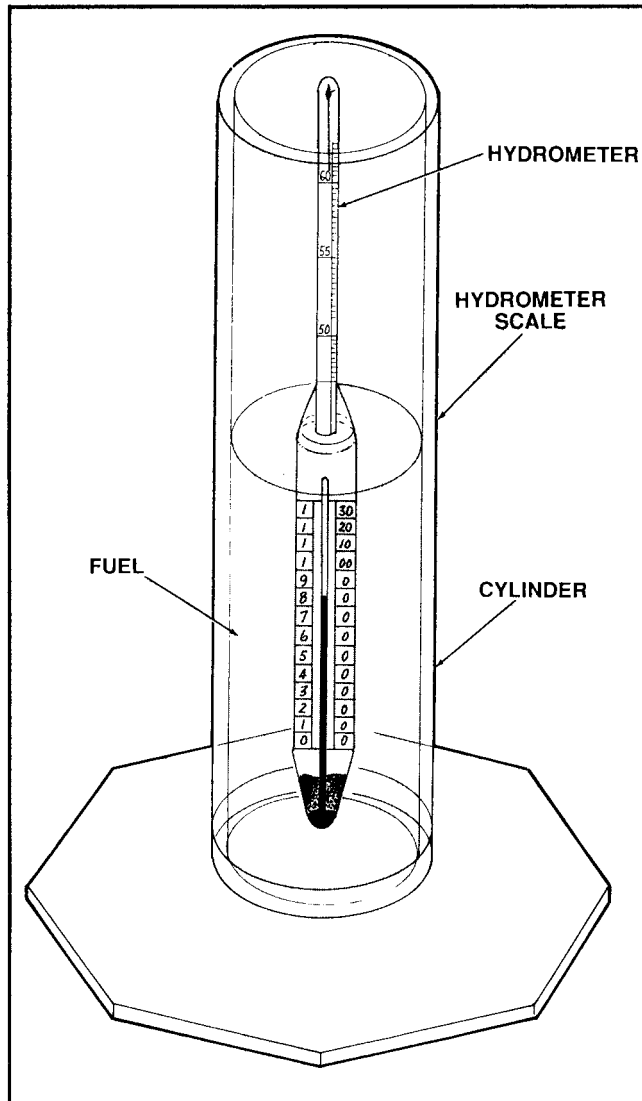

Figure 2.18 Hydrometer Scale within Fuel Cap
- b. Select a hydrometer which allows the scale to fall **within** the fuel cap (Figure 2.18). Place the hydrometer into the cylinder giving it a slight twist as you release it into the fuel.